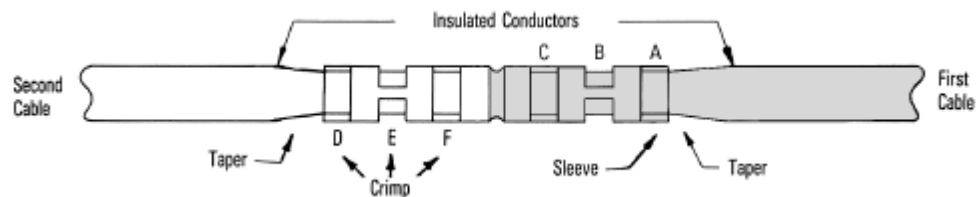

Figure 5-28: Splicing sleeve installation
14. Use a crimping tool (nicopress tool) to place crimps in the sleeve. Refer to Figure 5-28. Place a crimp at position **A**. Rotate the crimping tool 90 degrees and place a crimp at position **B**. Rotate the crimping tool 90 degrees and place a crimp at position **C**.